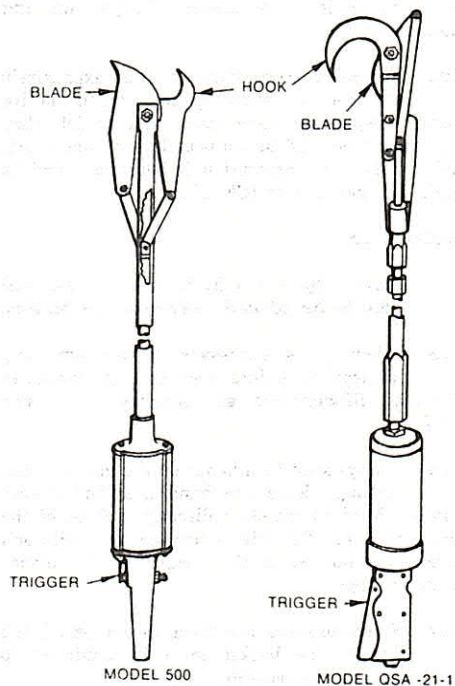

Fig. 4—Typical Pneumatic Pruners
- 7.10 The pruners shown in Fig. 4 are typical pneumatic pruners. The model 500 is 4-1/2 feet long and weighs 7 lbs. The model QSA:21-1 is 6 feet 8 inches long and weighs 9-1/2 lbs. Both have the same cutting capacity, 1-1/2 inches.